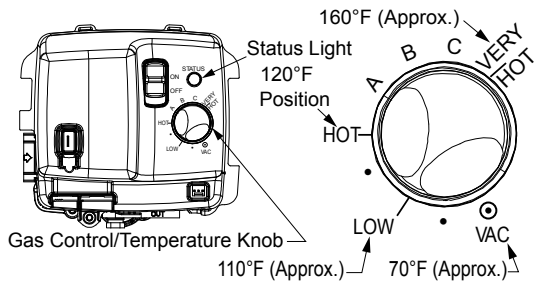

FIGURE 19.
**HOTTER WATER CAN SCALD:** Water heaters are intended to produce hot water. Water heated to a temperature which will satisfy space heating, clothes washing, dish washing, and other sanitizing needs can scald and permanently injure you upon contact. Some people are more likely to be permanently injured by hot water than others. These include the elderly, children, the infirm, or physically/mentally handicapped. If anyone using hot water in your home fits into one of these groups or if there is a local code or state law requiring a certain temperature water at the hot water tap, then you must take special precautions. In addition to using the lowest possible temperature setting that satisfies your hot water needs, a means such as a mixing valve should be used at the hot water taps used by these people or at the water heater. Mixing valves are available at plumbing supply or hardware stores. See Figure 14. Follow manufacturer's instructions for installation of the valves. Before changing the factory setting on the thermostat, see Figure 19. Using the lowest hot water temperature that meets your needs will also provide the most energy efficient operation of the water heater.